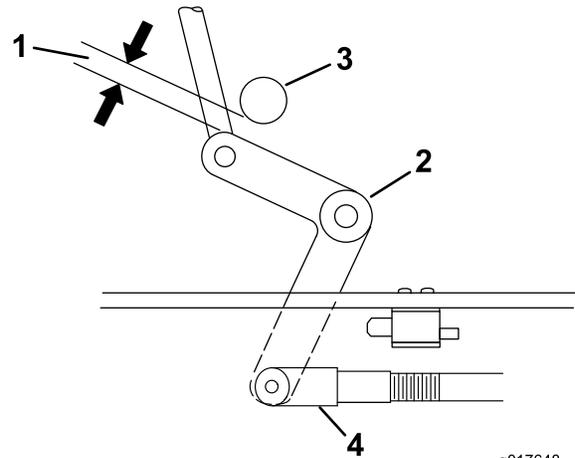
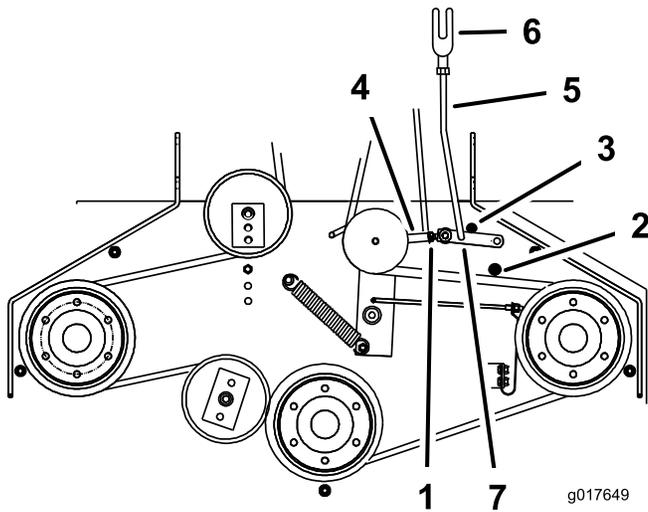

Figure 50
Figure 51
- Check the clearance between the bell crank and the transmission output shaft (Figure 50).
- Make sure the assist arm is against the rear assist arm stop on the deck (Figure 51).
- The assist arm should contact the front assist arm stop on the deck. If it does not contact, adjust the bell crank so it is closer to the transmission output shaft (Figure 50 and Figure 51).
8. To adjust the assist arm link, remove the hairpin cotter pin from the assist arm (Figure 51).
10. Install the assist arm link into the assist arm and secure it with the hairpin cotter pin (Figure 51).